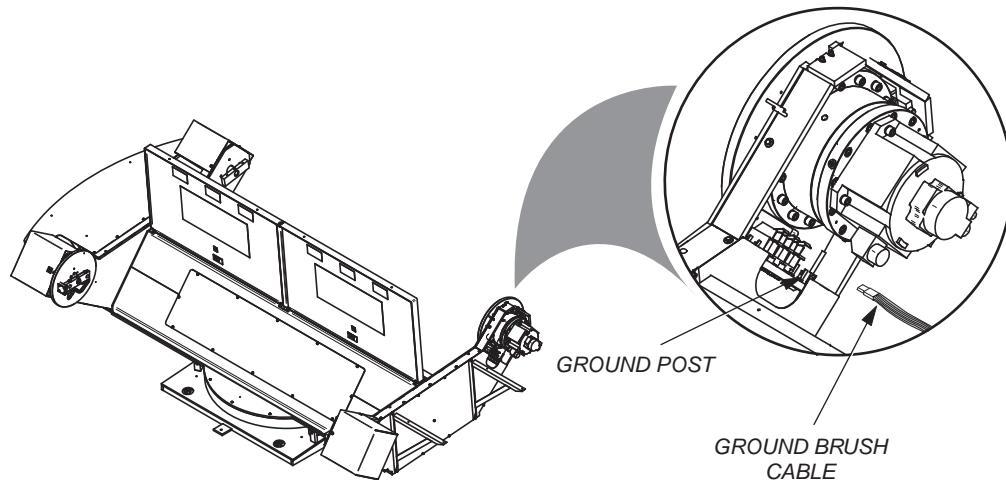

Figure 7 Disconnecting Brush Cable from Ground Post
2. Use a flathead screwdriver to disconnect the brush cable(s) from the ground post (refer to Figure 7).